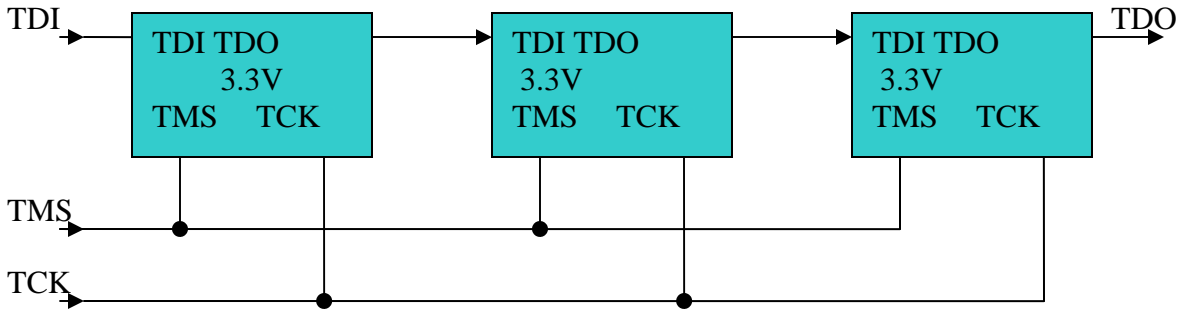

Figure 1: A JTAG chain with devices with the same I/O voltages
This approach, recommended when multiple devices have the same I/O voltage, places all devices with the same JTAG I/O voltage in a single chain, using a separate chain for each voltage. Each chain supports all the devices in its category, eliminating the chance that other devices won't work properly, and reducing confusion when other vendors must interface with the JTAG chain. Figure 1 shows a JTAG chain with the same I/O voltage devices. No voltage translators (VT) are needed in this case.